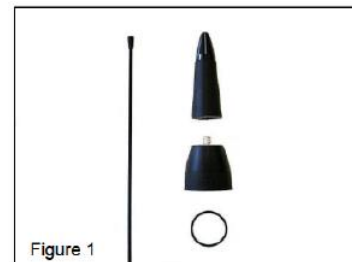

Figure 1
1. Parts (Figure 1):
Verify all parts are included with the Antenna as shown in figure 1.